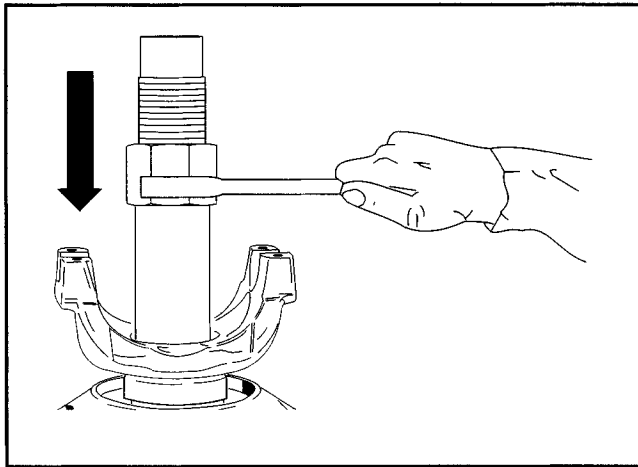

Figure 19
On rear carriers, install end yoke onto pinion using yoke installer service tool, (See Figure 19 and Recommended Service Tools Pgs. 31-32), without seal to allow proper setting of bearing preload. Tighten pinion nut to 900-1200 Lb-Ft (1,220-1,627 N-m).
18. Install end yoke using yoke installer service tool. (See Figure 19) Coat threads with Loctite #680 adhesive compound.